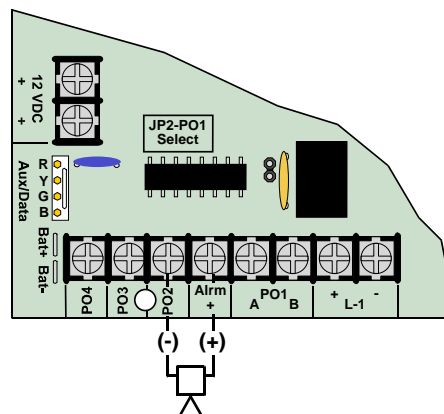

Figure 25: PO2-PO4 Wiring
- **PO3 and PO4:** Outputs PO3 and PO4 can be configured for Alarm Output. These outputs can sink up to 500 mA 12 VDC each. For larger loads, use a Bosch Security Systems D133 Relay Module or a Bosch Security Systems D134 Dual Relay Module (see *Figure 25*).